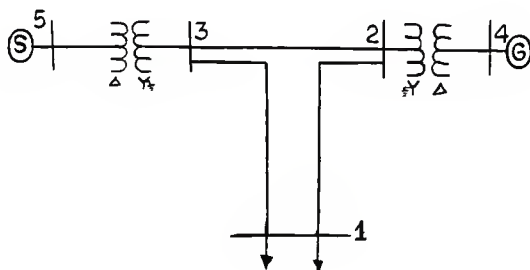
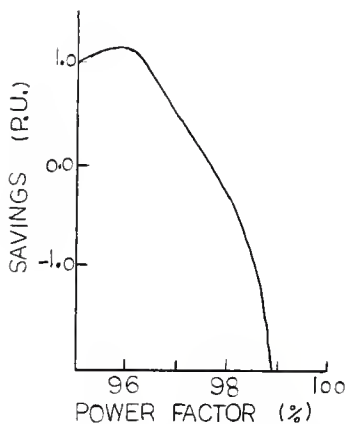

Figure 9: Power System # 5.
Figure 10: Savings v.s. Power Factor for System # 5.
5. In Figure 9, the electric power system under consideration is shown. Values of real power (P), reactive power (Q), voltage magnitude (V), voltage angle (θ) at each bus, and line impedances are given in Table 9.
Load flow output can be found in Appendix A.51. Total benefits, capacitor costs, and savings are recorded in Table 10. Figure 10 contains a plot of savings in per unit v.s. power factor. It can be concluded from Figure 10 and Table 10 that the optimum power factor of the electric power system in Figure 9 is 97.65%, where total benefits and costs are equal.